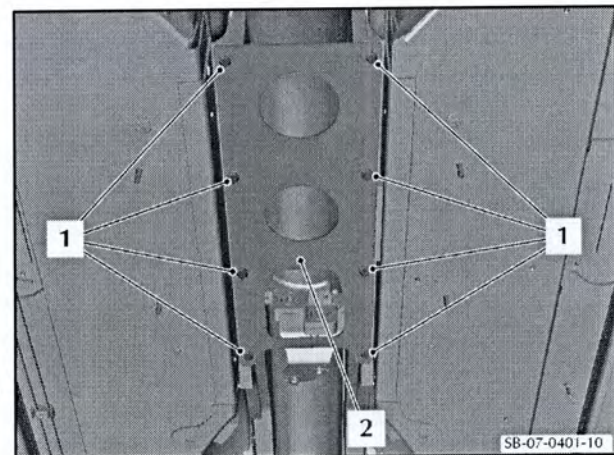

Figure 11
18. Remove the eight bolts (1) that attach the tunnel reinforcement plate (2) to the body and remove the plate (2) (refer to Figure 11).